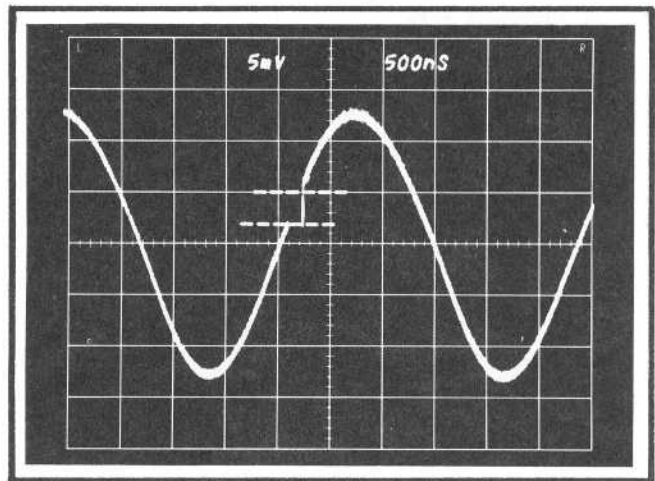

Fig. 5-14. Typical display of strobe kickback.
- Check the vertical amplitude of the largest discontinuity for a maximum of 2 major divisions (10 mV or less), of strobe kickback. See Fig. 5-14.